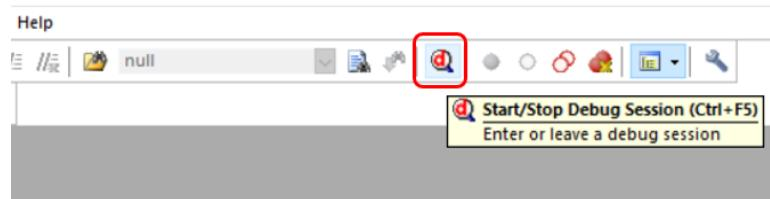

Figure 7.20: Keil IDE: Debug Button
2. Press the “debug” button to bring up the debugger interface (See Figure 7.20).
5. To exit the debugging session, press the “debug” button again (see Figure 7.20).